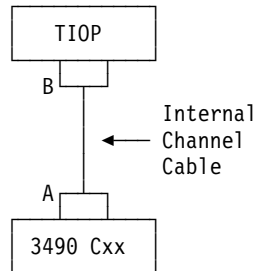

Figure 17. Tape Subsystem Cable Connections
The tape subsystem cables connect as shown in Figure 17.
- a. Disconnect the internal channel cable from the I/O device control unit (at **A** in Figure 17).
- b. Disconnect the internal channel cable from the TIOP card (at **B** in Figure 17 on page 480).